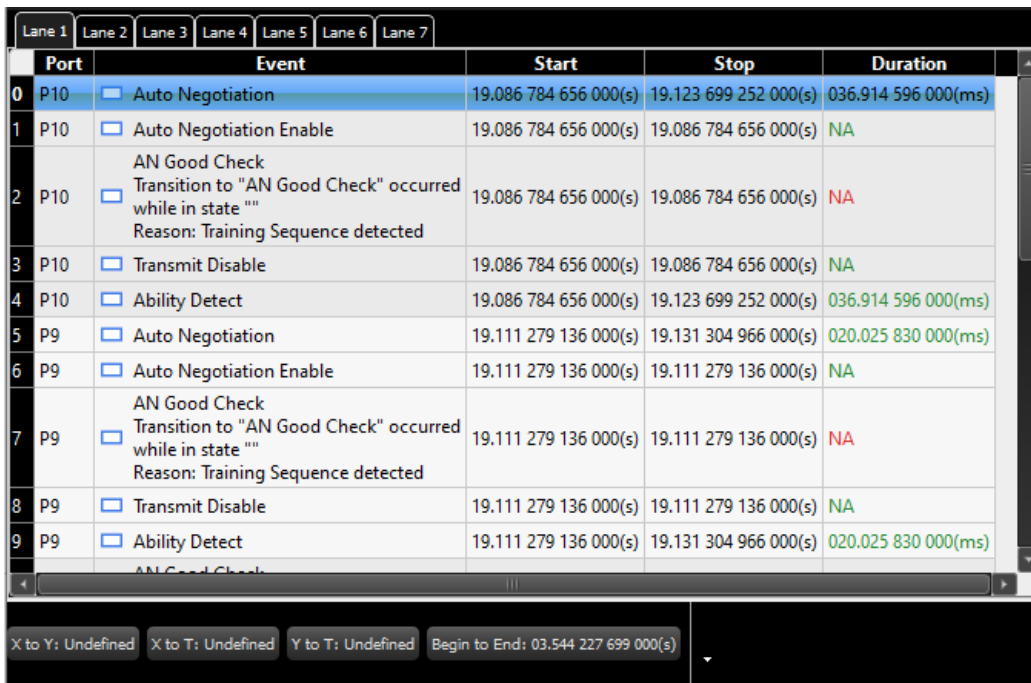

Figure 3.97: Listings View Pane
The Listings View pane displays the port number, Event, Start and Stop time, Duration, and tabs for each lane (Figure 3.97).
- ❑ The tabs for lanes 1 through 7 display the current-state diagram view for the selected port (Figure 3.97).